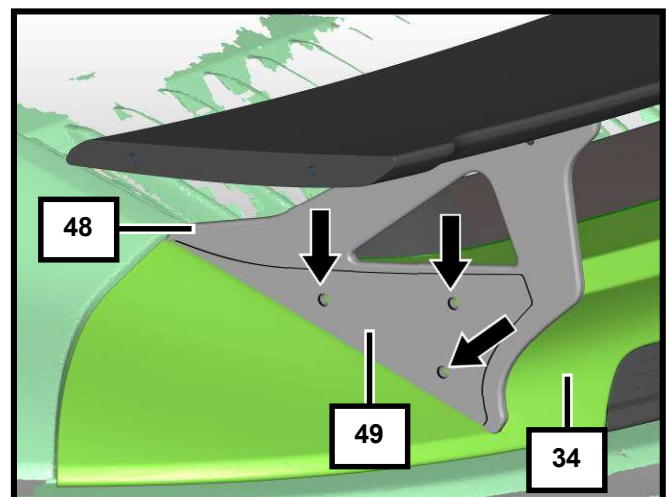

Fig. 61
**i** Only install the TECHART insert mounting plate (49), if the inside is painted, page 12 1.1 point 4.
- 61 Fasten the TECHART base (46) with the screws M8x60 through TECHART base frame (24) to the TECHART bracket base frame center (28), do not tighten, yet.
- 62 Align the TECHART rear spoiler and then tighten all 7 screws M8 (see position: arrows on fig. 61 and 62) using bolt adhesive. Tightening torque = 8 Nm